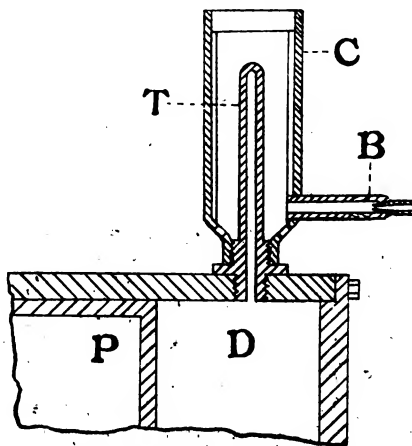

Fig. 1.—CROSS SECTION OF HOT TUBE IGNITOR.
The subject of ignitors for gas and gasoline engines is one of much importance and usually of great interest. Apparatus for three methods of ignition only, will be referred to in this article. The first, hot tube ignition, Fig. 1, while yet in use to some extent, is fast going out of use. It consists of a hollow tube (T) closed at one end and threaded to screw into the cylinder so as to communicate with the combustion chamber (D). Around this tube is fitted a cast iron chimney (C) lined on the inside with sheet asbestos, to retain the heat, and a port through the lower end of the chimney to which is attached a gas or gasoline burner (B) which directs a hot, blue flame against the tube, which becomes heated red hot within a few minutes. The tube being closed at the upper end, the gas is pushed or crowded up into the tube at each compression until it meets the red hot part, when it is promptly ignited, which sets the entire charge on fire.